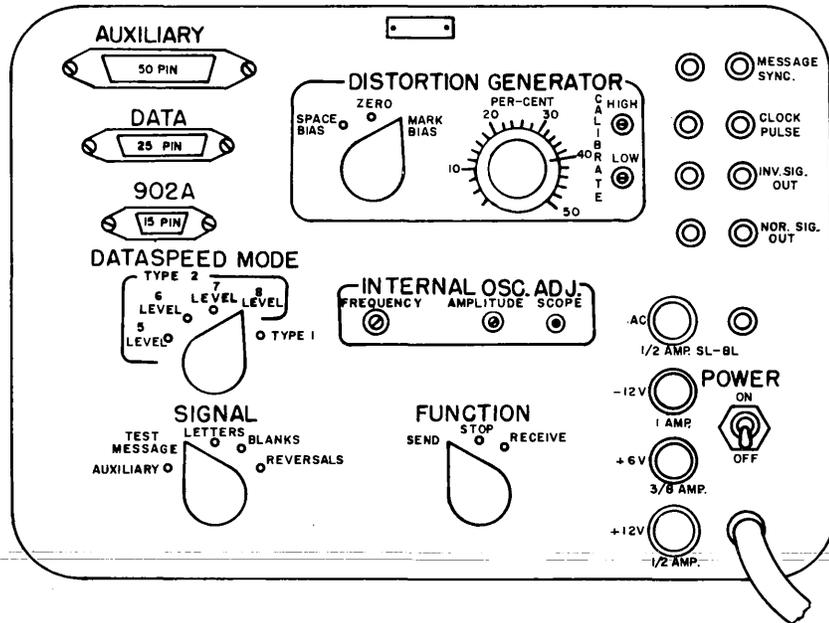
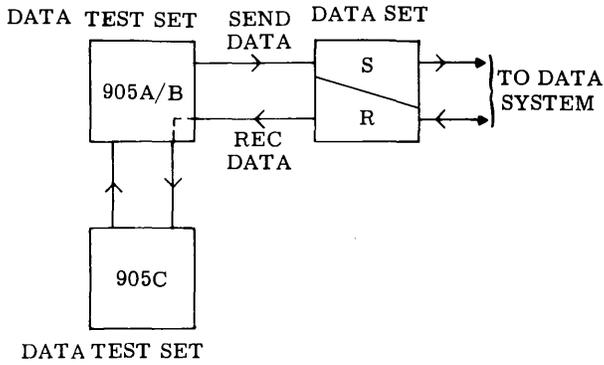

Figure 3 - Data Test Set 905A/B, Front Panel
Figure 5 - Test Equipment Setup for Transmitter and Receiver Control Tests
4.01 The data test set 905A/B (Figure 3) is shown to account for switch positions required during the system testing.
4.03 Connect test equipment as shown in Figure 5. Arrange the control switches of the 905A/B data test set (Figure 3), as follows:
4.19 With the test equipment set up as shown in Figure 5, and the MAINTENANCE TEST SWITCH in the OFF position, the H/L Converter may be tested as follows: